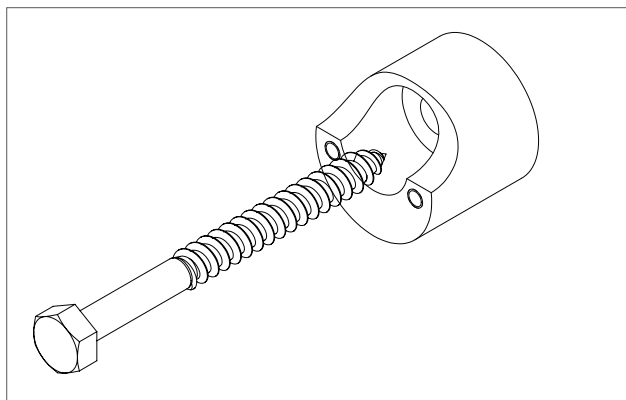

Figure 2
5. Mount back of tube spacer using lag screw (Figure 2).